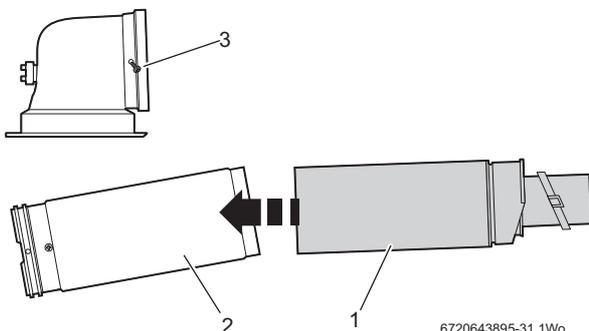

Fig. 38 Reducing the standard terminal
- ▶ If the required length is less than 350mm the standard telescopic flue can be modified, refer to fig. 38.